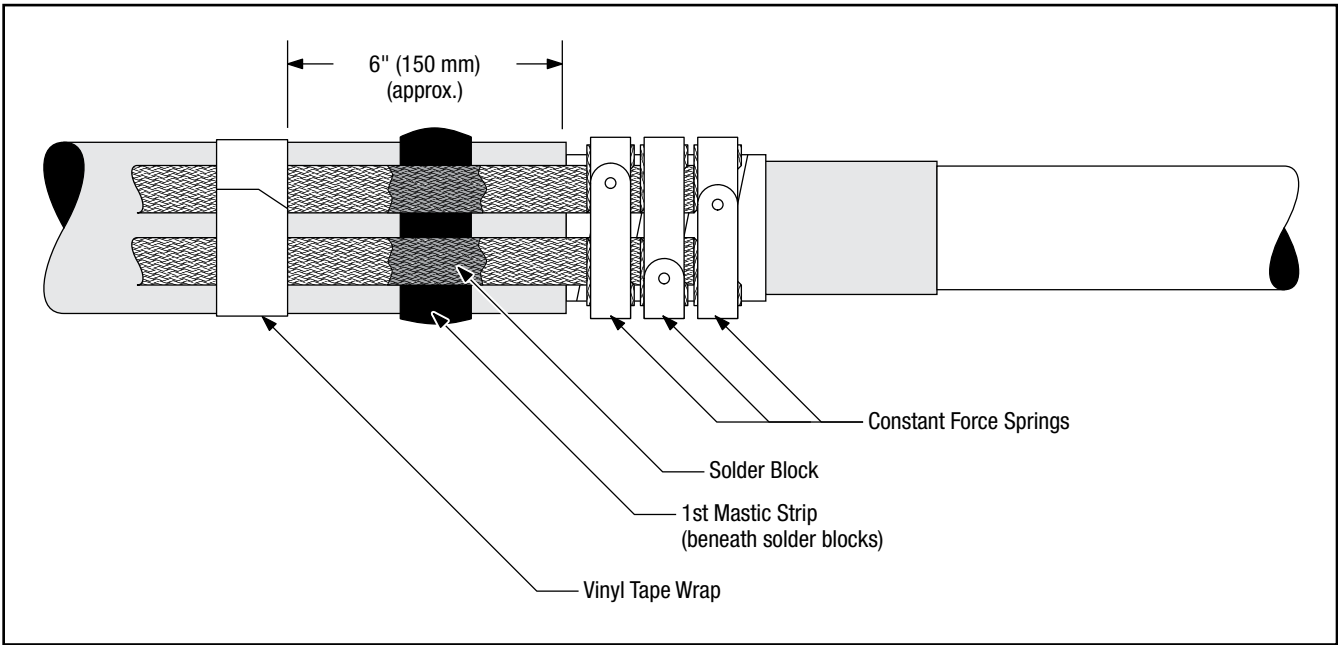

Figure 5
- 2.4 Select the roll of 1" (25 mm) wide 3M™ Scotch-Seal™ Mastic Tape 2229 from the kit. Cut a length of the tape long enough to wrap around the cable jacket. Remove the release liner from the mastic and, using light tension, apply a single wrap of mastic around the cable jacket, positioned under the ground braid solder blocks. (Figure 5)
- 2.5 Secure the two tails of the ground braid assembly to the cable jacket approximately 6 inches (150 mm) from the cable jacket edge with several wraps of vinyl tape. (Figure 5)